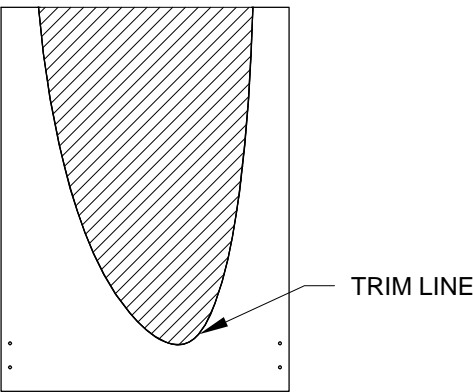
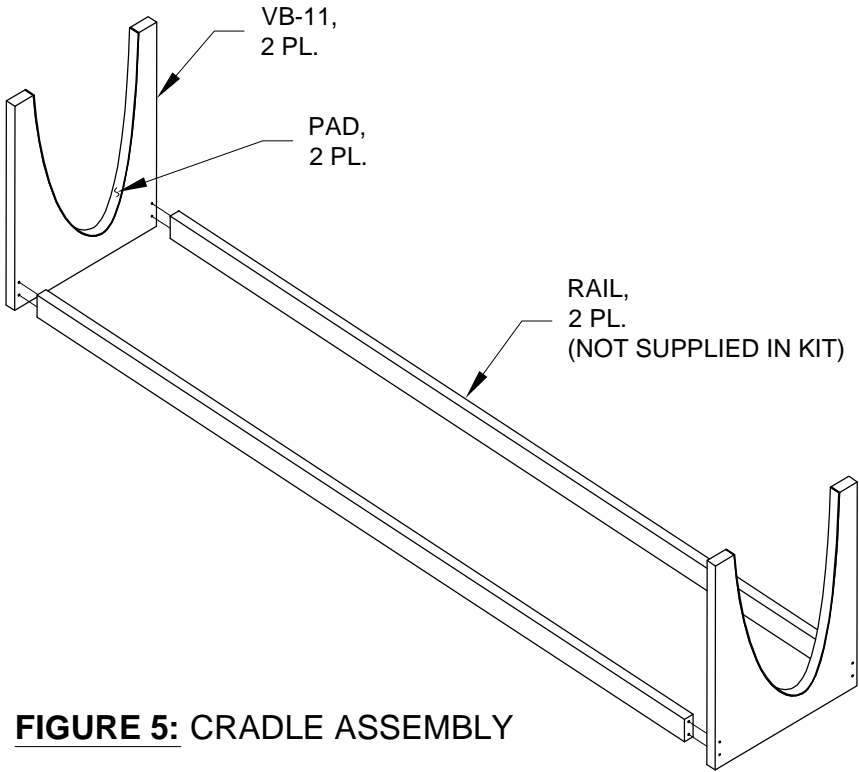

FIGURE 4: WING LEADING
FIGURE 5: CRADLE ASSEMBLY
Step 4: Create a cradle to hold both the leading edge and tank assemblies during assembly. First remove the material indicated by the hatched area in Figure 4 from the VB-11 Wing Leading Edge Vee Blocks. **Save** the removed material, it will be used later to create the flap cradle. Make rails 57 1/2 inches long to interconnect the vee blocks. Assemble the cradle as shown in Figure 5. Line the inside face of the cradle with duct tape or weather strip as shown in Figure 5.